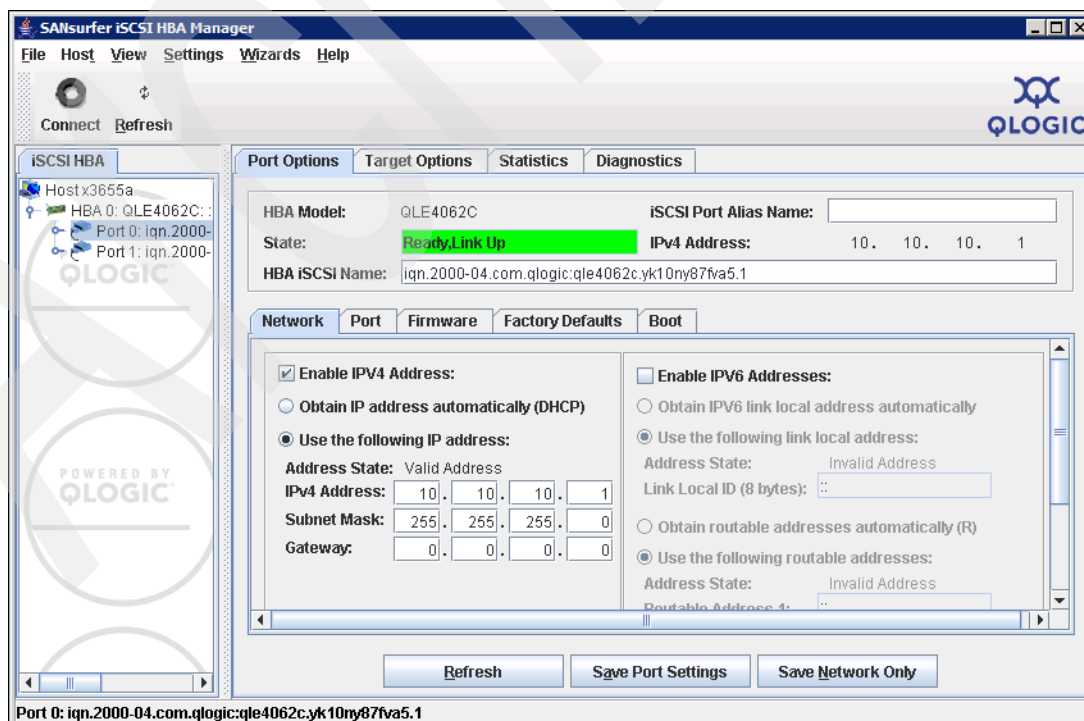

Figure 3-21 Setting iSCSI port
2. Configure your iSCSI adapter port with the network settings already planned. On the SANsurfer iSCSI HBA Manager main window HBA tree, select the HBA port of the card to configure. On the Port Options page, click the **Network** tab. See Figure 3-21.